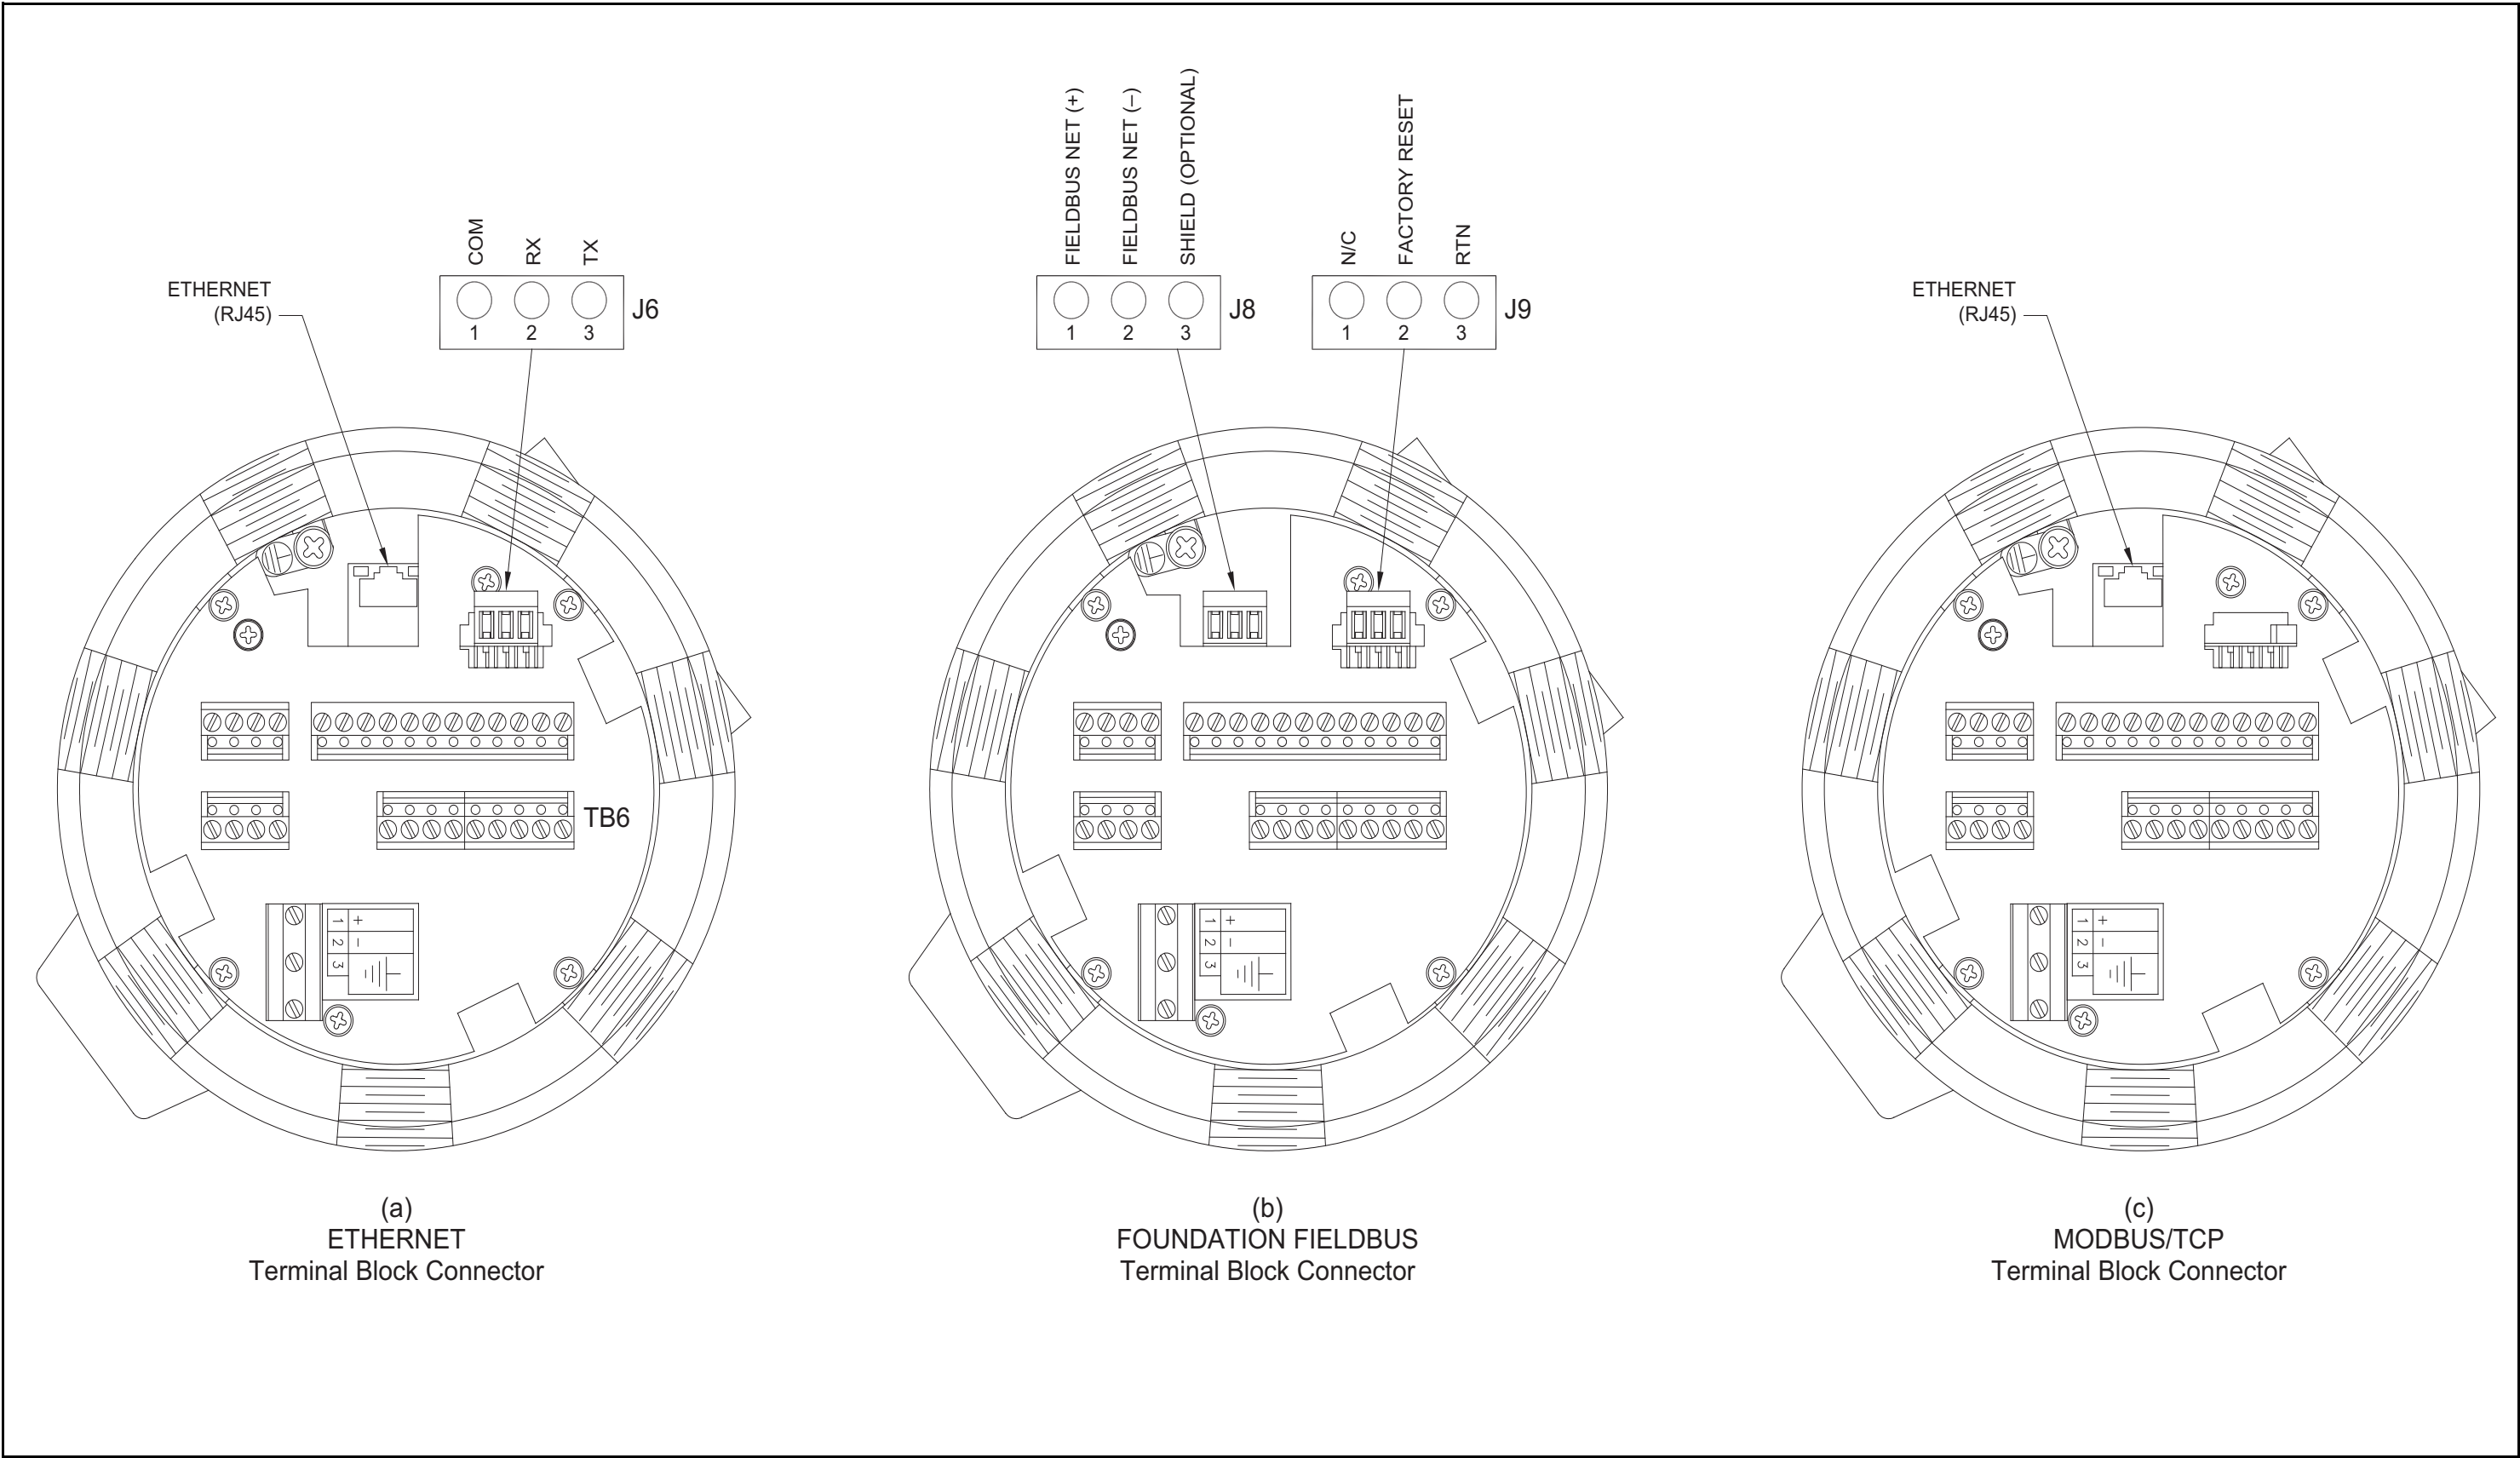

Figure 10: PanaFlow Z1G Ethernet, Foundation Fieldbus and MODBUS/TCP Terminal Block Connections
Customers can also use a modified PanaFlow Z1G that provides a MODBUS/TCP interface to communicate to an internal network. An optional MODBUS/TCP card with a unique MAC (IP) address (installed only in slot 2) includes an RJ45 connector. To connect the MODBUS/TCP-enabled PanaFlow Z1G to the network, insert the jack of an RJ45 cable into the RJ45 connector, route the cable through one of the conduit holes using an appropriate cable clamp, and wire the other end of the cable to the Ethernet network according to the manufacturer's instructions. See Figure 10 on page 23.
A modified PanaFlow Z1G can use the Ethernet interface to communicate to a local area network. An optional Ethernet card with a unique MAC (IP) address (installed only in slot 2) includes an RJ45 connector. To connect the Ethernet-enabled PanaFlow Z1G to the network, insert the jack of an RJ45 cable into the RJ45 connector, route the cable through one of the conduit holes using an appropriate cable clamp, and wire the other end of the cable to the Ethernet network according to the manufacturer's instructions. An external connection is required between the Ethernet option card and the PanaFlow Z1G's RS232 connector, as shown in Table 5 and Figure 10 on page 23.
To connect the Foundation Fieldbus interface to the PanaFlow Z1G, make the network connections at J8, pins 1 and 2, as shown in drawing Y of Figure 10 on page 23. As an option, you can connect a shield to J8 pin 3, depending on the network wiring.